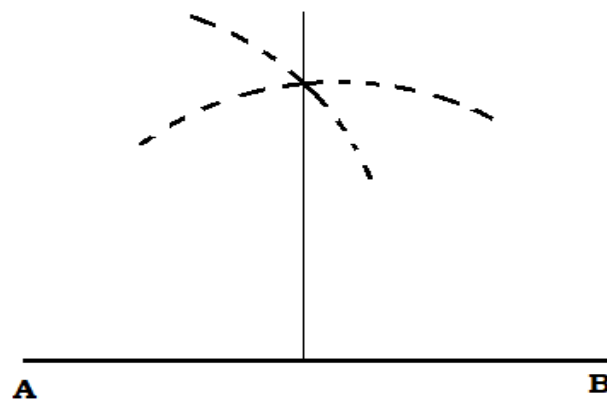

Fig. 1.17(a): Draw Perpendicular Lines Using a Compass
- Use these intersections to draw a perpendicular by connecting them through the original point (Fig. 1.17 (a)).